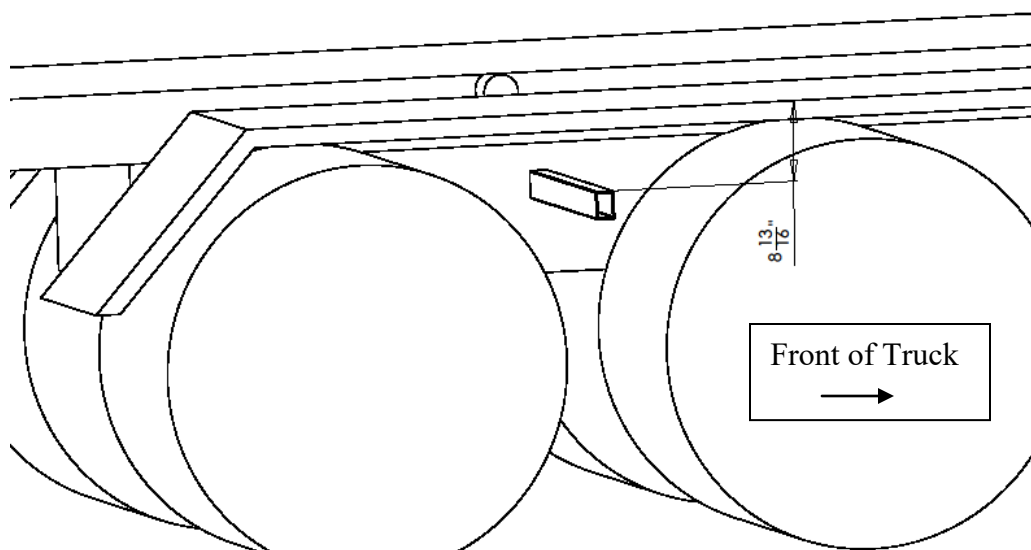

Figure 4
- 2) The mounting kit is designed to have the rear mounting leg to be placed centered between the drive axles. To insure clear clearance the top of the tube should not be more than $8 \frac{13}{16}$ " down from the top of the tire or fender, as part of the pivot box will sit above the tire or fender. (Refer to Fig. 4)